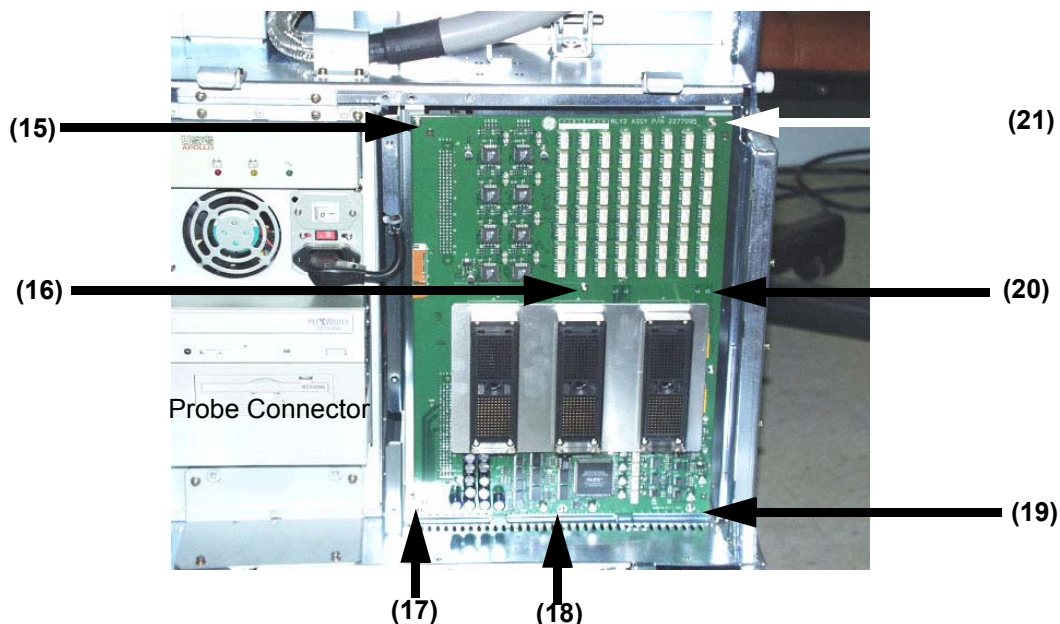

Figure 8-114 Unscrew 7 screws to remove the RLY Board
- 5.) Unscrew seven (7) screws (15-21) to remove the RLY Board. Refer to Figure 8-114 on page 8-63 .